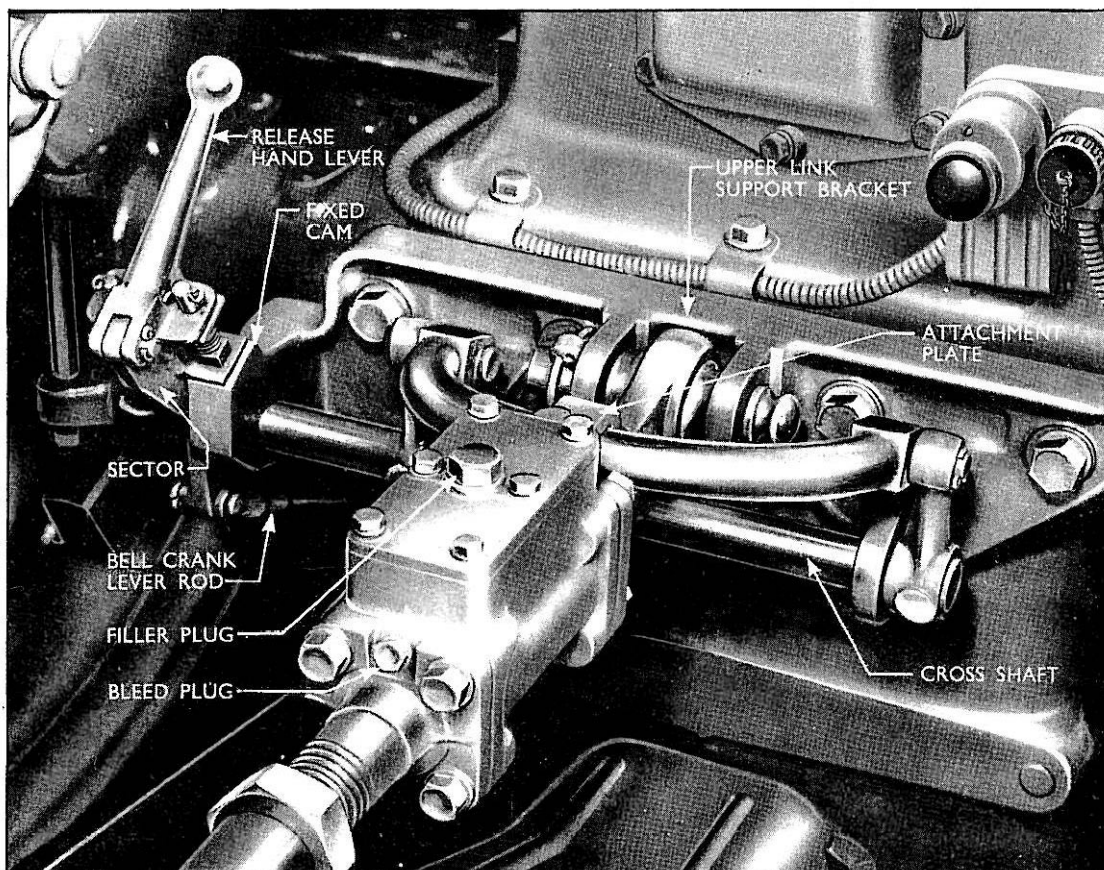

Fig. 154
As the cylinder moves forward, the buffer which is connected to the automatic clutch release by means of an attachment plate, is also moved forward (see Fig. 154).
To overcome this condition in service approximately .125 ins. (3.175 mm.) of metal should be removed from the vertical face of the fixed cam (see Fig. 154).
- 1 Remove the existing upper link support bracket and install the new upper link support bracket assembly (see Fig. 154). This assembly is secured to the rear transmission housing by the same four bolts and washers.